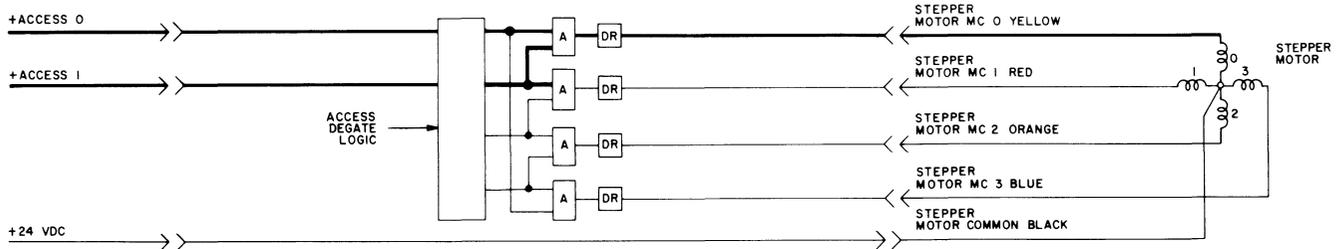

Figure 15A – Stepping Signals
Two signals, access  $\emptyset$  and access 1, activate the stepper motor. These two signals are sent through an Access Degate logic block (Figure 15A) through an and (A) block where they are combined, then through an amplifier to increase the signal before going to the motor control line. At this point, motor control  $\emptyset$  line becomes an electrical detent. The stepper motor armature will turn  $1.8^\circ$  to align with the detent made in the winding. The stepper motor will remain in this detented position until the system electronics signals the access lines again.